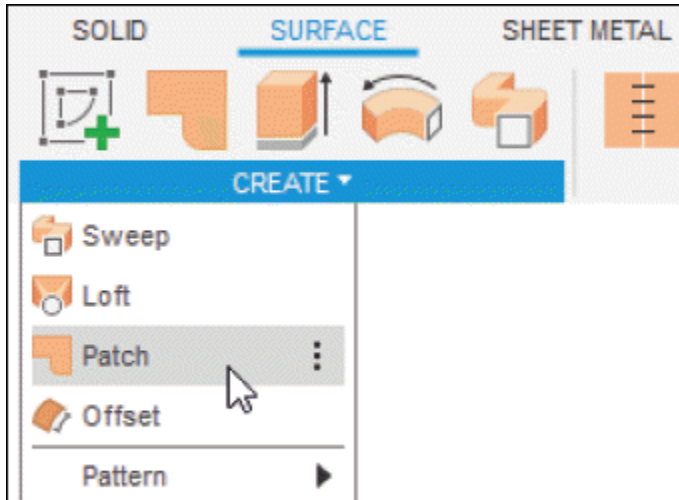
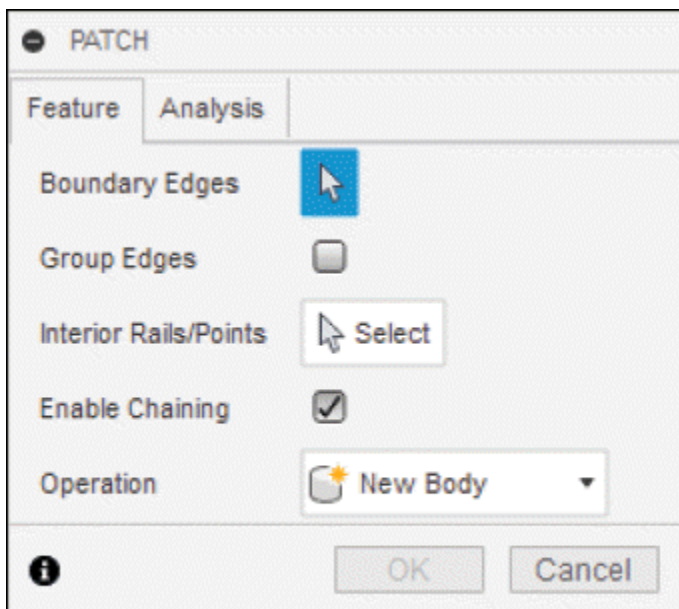

Figure-6. Patch tool
Figure-7. PATCH dialog box
- Click on the **Patch** tool of **CREATE** drop-down from **Toolbar**; refer to Figure-6. The **PATCH** dialog box will be displayed; refer to Figure-7.